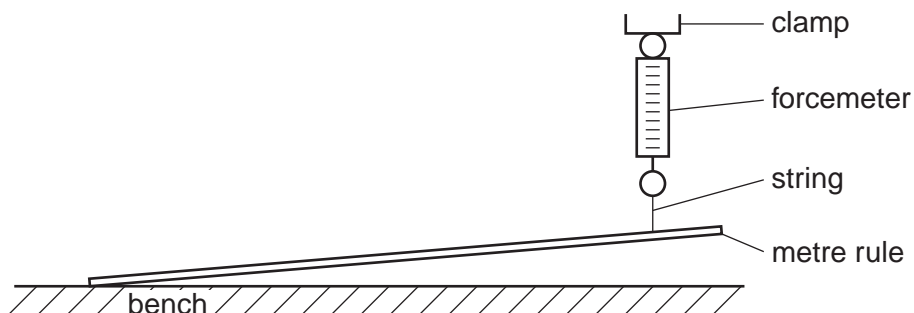

Fig. 1.1
1. The apparatus is to be set up as shown in Fig. 1.1. Zero the forcemeter before attaching it to the rule. One end of the forcemeter should be attached to the clamp. The other end of the forcemeter is to be attached with string to the metre rule at the 90.0cm mark. The string must not slip. The forcemeter will show a non-zero reading.